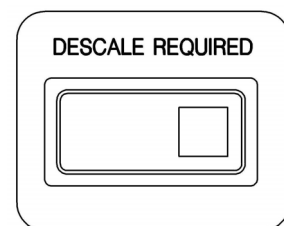

Figure 3-4 Descaling Required Light
When the programmed number of hours have elapsed, the “DESCALE REQUIRED” light will turn on, indicating that descaling of the steam generator must be done (See Figure 3-4). More information on this feature and the descaling procedure can be found in the Maintenance section of this manual, Section 6, Part A (4), Monthly Maintenance.